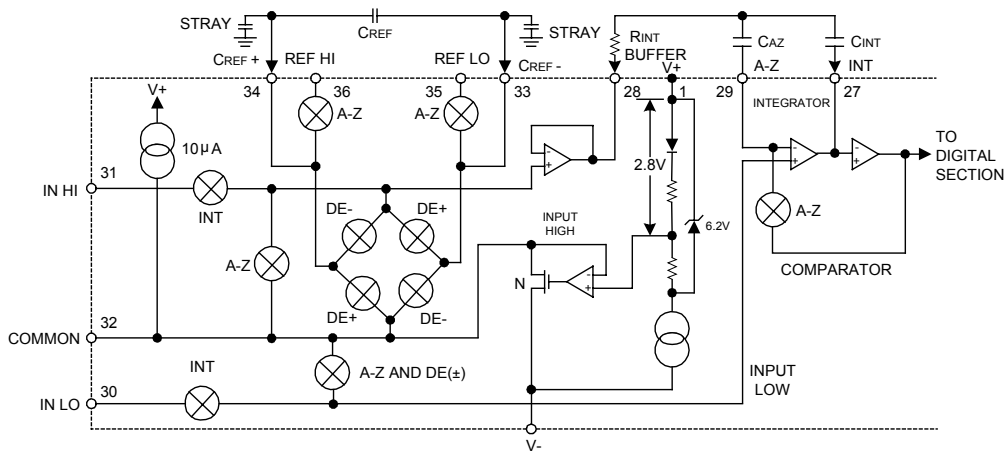

FIGURE 1. ANALOG SECTION
Note 3: Unless otherwise noted, specifications apply to the UTC 7106 at $T_a=25^\circ\text{C}$, $f_{\text{LOCK}}=48\text{kHz}$, UTC 7106 is tested in the circuit of Figure 1.
Figure 1 shows the Analog Section for the UTC 7106. Each measurement cycle is divided into three phases. They are (1) auto-zero (A-Z), (2) signal integrate (INT) and (3) de-integrate (DE).
The UTC 7106, with its negligible dissipation, suffers from none of these problems. In either case, an external reference can easily be added, as shown in Figure 1.